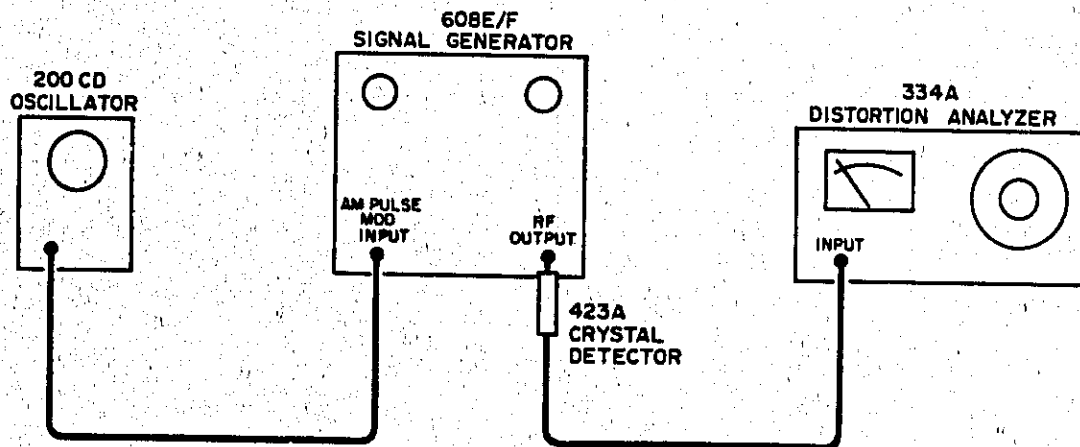

Figure 5-8. Envelope Distortion Test Setup
- a. Connect signal generator in test setup illustrated in Figure 5-8.